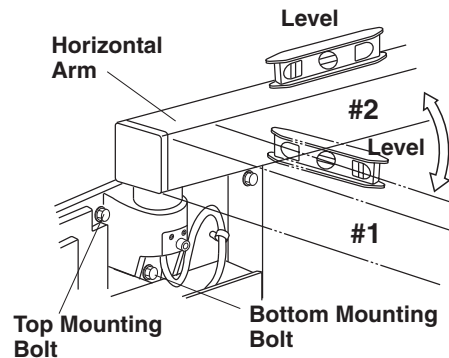

Fig.4-1 Horizontal Arm Adjustment
1. Incorrect leveling of the wall plate and wall bracket can cause arm drift. First, check leveling with horizontal arm in position **#1**. (**Fig.4-1**) If not correct, bracket must be adjusted by placing shims behind the wall plate.
2. Check leveling in position **#2**. If not correct, adjust Horizontal Arm as follows : (**Fig.4-1**)